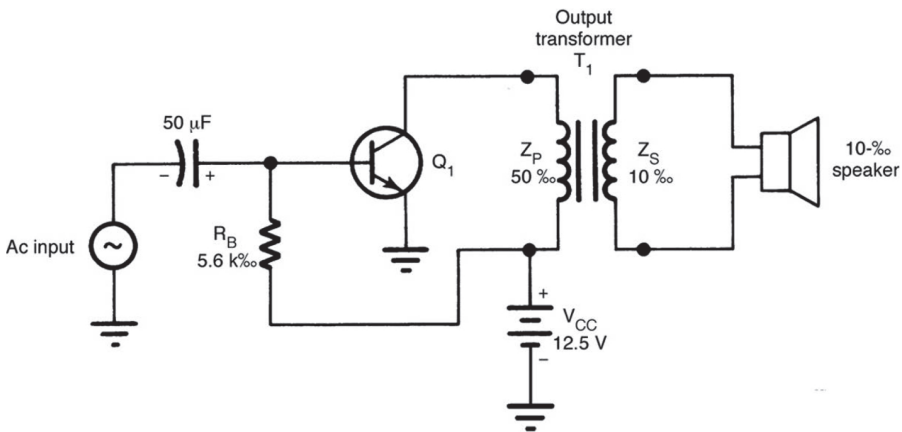

Figure 11.1 Single-ended audio amplifier.
Figure 11.1 shows a single-ended audio output amplifier. The term **audio** refers to the range of human hearing. **Audio frequency** (AF) refers to frequencies that are from 15 to 15 kHz. This particular amplifier responds to signals somewhere within this range.
With the load line of the amplifier is established, the base resistance value must be determined. For the circuit in **Figure 11.1**, the emitter voltage is zero. The emitter–base junction of the transistor, being silicon, has 0.7 V across it when it is in conduction. The base resistor, therefore, has $12.5 - 0.7 \text{ V}$, or 11.8 V , across it at the Q point of the $50\text{-}\Omega$ AC load line. By Ohm's law, the value of R_B is $11.8 \text{ V}/2 \text{ mA}$, or 5900Ω . A standard resistor value of $5.6 \text{ k}\Omega$ would be selected for R_B . Note the location of this resistor in the circuit.
The operational efficiency of the single-ended amplifier of **Figure 11.1** is, therefore, determined by the ratio of the output power to the input power expressed as a percentage.
In the amplifier circuit given in **Figure 11.1**, if 2.5 W of input power is used for developing 1 W of output power, calculate the efficiency of the amplifier.
In the amplifier circuit given in **Figure 11.1**, if the input power is 2.5 W and the efficiency is 80%, calculate the output power developed by this amplifier.